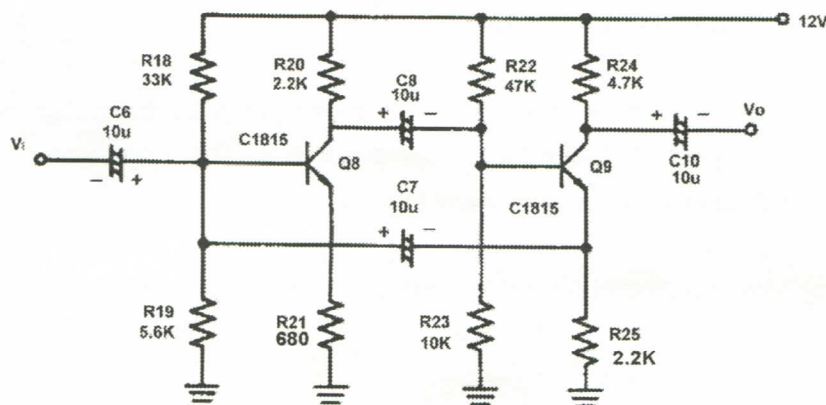

Fig 10-5 Current-sampling shunt-mixing negative feedback circuit
- (1) Insert the short-circuit clip by referring to Fig 10-5 and the short-circuit clip arrangement diagram 23007-block b.3. The capacitor C7 ($10\mu\text{F}$) for negative feedback is disconnected.
- (2) Use multimeter (DCV) to measure V_{c8} and V_{c9} (Q8 Q9 collector).
- (3) Connect signal generator and oscilloscope in the input terminal (IN1), and connect oscilloscope to the output terminal (OUT). Adjust the output of signal generator to 1KHz sine wave and gradually increase the output voltage so that the oscilloscope can display maximum non-distorted waveform in the output terminal. View and record the waveforms in IN and OUT respectively.
- (4) Use oscilloscope to measure V_{c8} and V_{c9} (Q8 Q9 collector).
- (5) Connect C7 ($10\mu F$) so that this circuit will operate as the topology of current-sampling shunt-mixing negative feedback.
- (6) Repeat Step (2) (3) (4).
10-4: Current-sampling shunt-mixing circuit as shown in Fig 10-5.